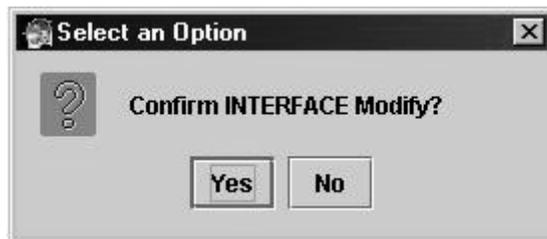

Figure 6-2: Confirm Modify Port Interface Dialog
6. Click **MODIFY**. The Select an Option dialog displays. See Figure 6-2.